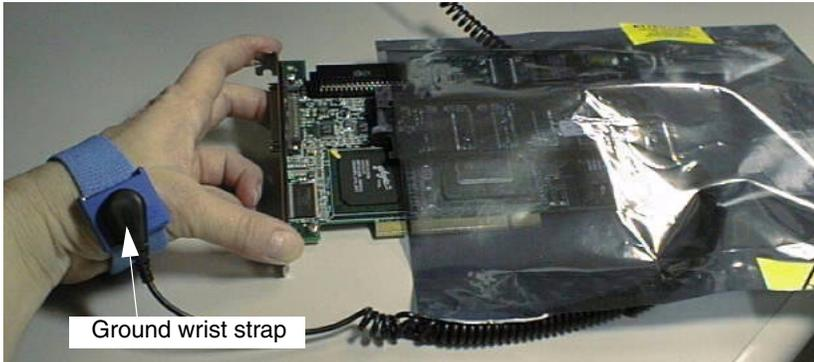

Figure 2-6. Remove the Controller from the Anti-static Bag
3. Handling the AcceleRAID 170 controller by the edges, remove it from the anti-static bag as shown in Figure 2-6.